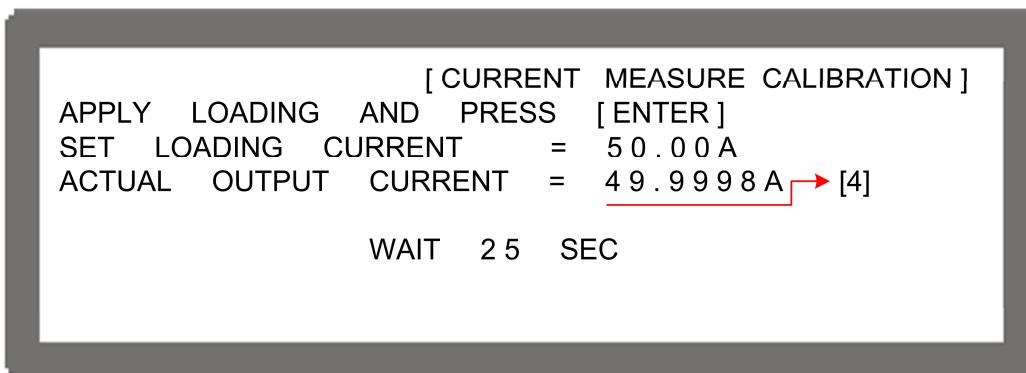

Figure 3-108
11. Press “” to perform the 50A calibration. The cursor will stop at position [4] as shown in Figure 3-108 for setting the loading current of the Electronic LOAD to 50.00A. Enter the current (enter 4 digits after the decimal point) read by the Current Shunt (DVM) and press “” to confirm and wait for the test to end. Using 20A and 50A for calibration, the system will calculate the calibration factor for the high current range.